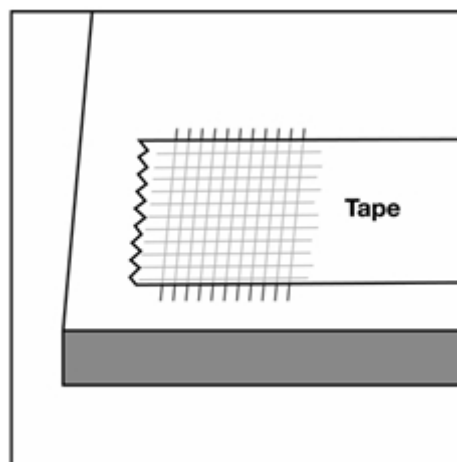

Figure 4e
3. Pressing firmly, apply a $1/2''$ -wide strip of strong tape (i.e. Scotch™ brand) across the scored area (Figure 4e).